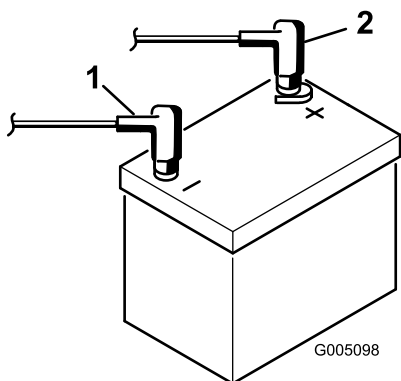

Figure 4
7. Install the positive cable (red) to the positive (+) terminal and the negative cable (black) to the negative (–) terminal of the battery and secure them with bolts and nuts (Figure 4). Make sure that the positive (+) terminal is all of the way onto the post and the cable is positioned snug to the battery. The cable must not contact the battery cover.